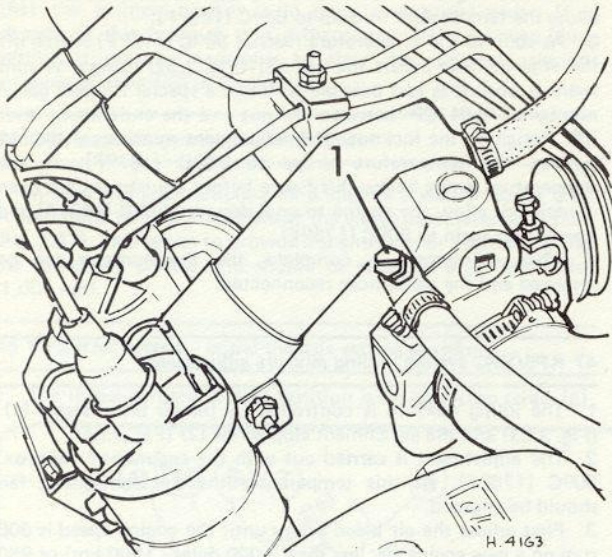
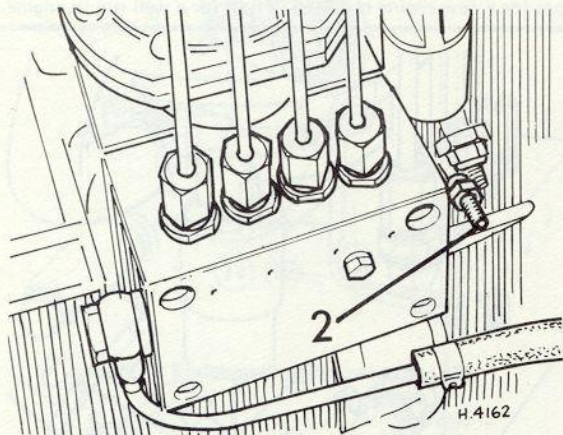

Fig 3.53 Location of air bleed screw (1) (Sec 47)
Fig 3.54 Enrichment stop screw (2) (Sec 47)
1 The idling mixture is controlled by the air bleed screw (1). (Fig. 3.53) and the enrichment stop screw (2) (Fig. 3.54).